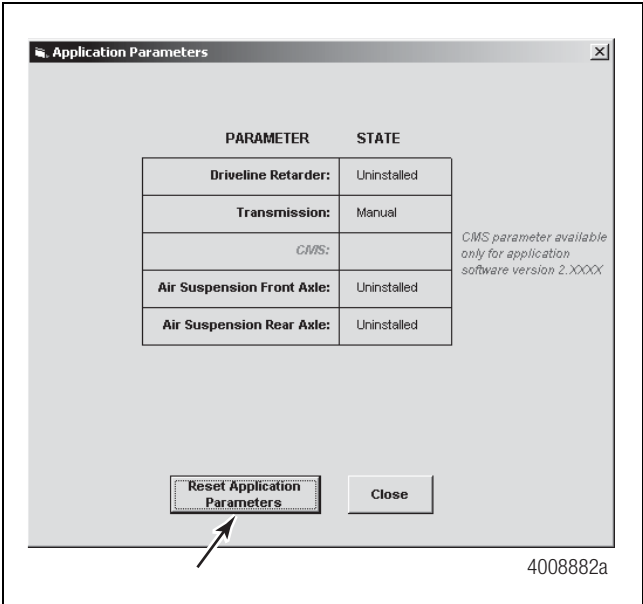

Figure 2.20
3. The Application Parameters screen will then appear. Driveline Retarder, Transmission Type, Air Suspension Front Axle and Air Suspension Rear Axle can all be reset by clicking on “Reset Application Parameters.” Figure 2.20.